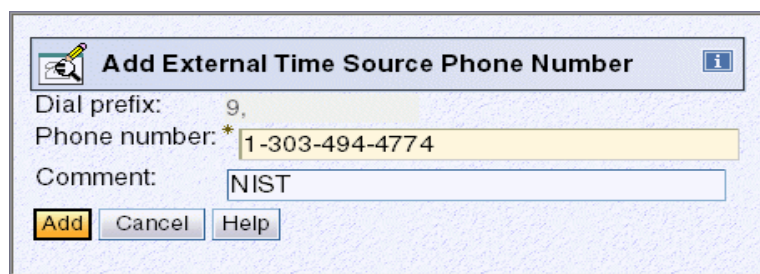

Figure 1-60 Add External Time Source Phone Number window
5. Once the Customize Modem Setting task has been completed, the telephone number can be added by clicking **Add** in the External Time Source tab. Figure 1-60 shows the Add External Time Source Phone Number window.